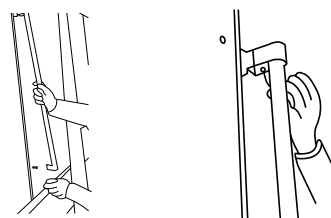

Figure 3
3. Using the provided Allen wrench/hex key, turn clockwise to secure the top and bottom handle screws to the door anchors. See Figure 3.